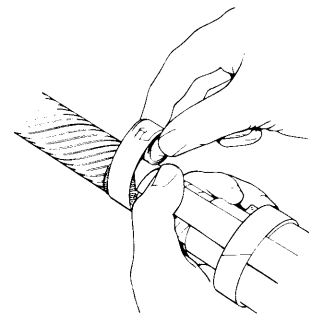

Figure 8
- b. Hold the coil and shield strap in place with thumb (Figure 8). Pull (to unwrap) the coil around the cable and rewrap around #24 Tape and itself.